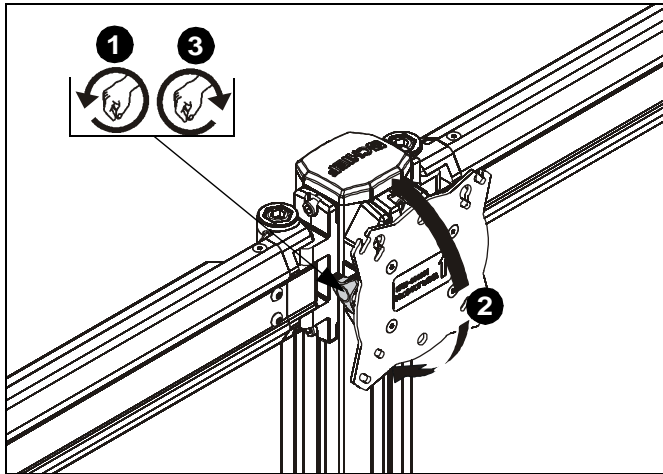

Figure 25
1. Loosen knob on side of center faceplate assembly. (See Figure 25)
2. Adjust pitch as desired. (See Figure 25)
3. Tighten knob to secure desired pitch position. (See Figure 25)